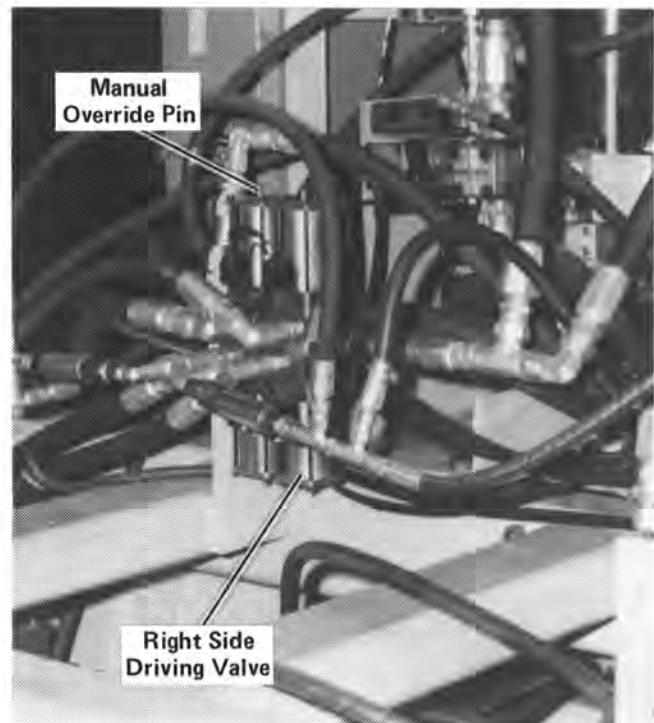

Figure 29
- A. With engine at full rpm, manually extend a driving cylinder on the right side of the machine (viewed from engine end). By pushing the manual override pin on the driving valve until it is completely retracted, See Figure 29.